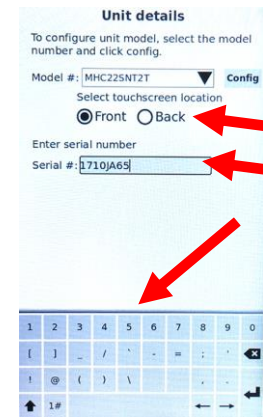
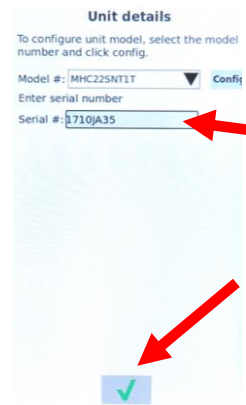

Figure 43
Figure 44
- 56. On double sided units select controller location: **Front** or **Back** (see Figure 43) or **Left** or **Right** on 5x4 units.
57. Press the Serial # field and use the keyboard to enter the serial number of the cabinet. It is critical that the Cabinet Information including the Serial # and the Model # **ALL** be entered into these fields (see Figure 43). If any information is missing or incorrect in any of these fields, the cabinets will not communicate with other cabinets. When finished, press the return key (see Figure 43) and the GREEN checkmark button (see Figure 44).